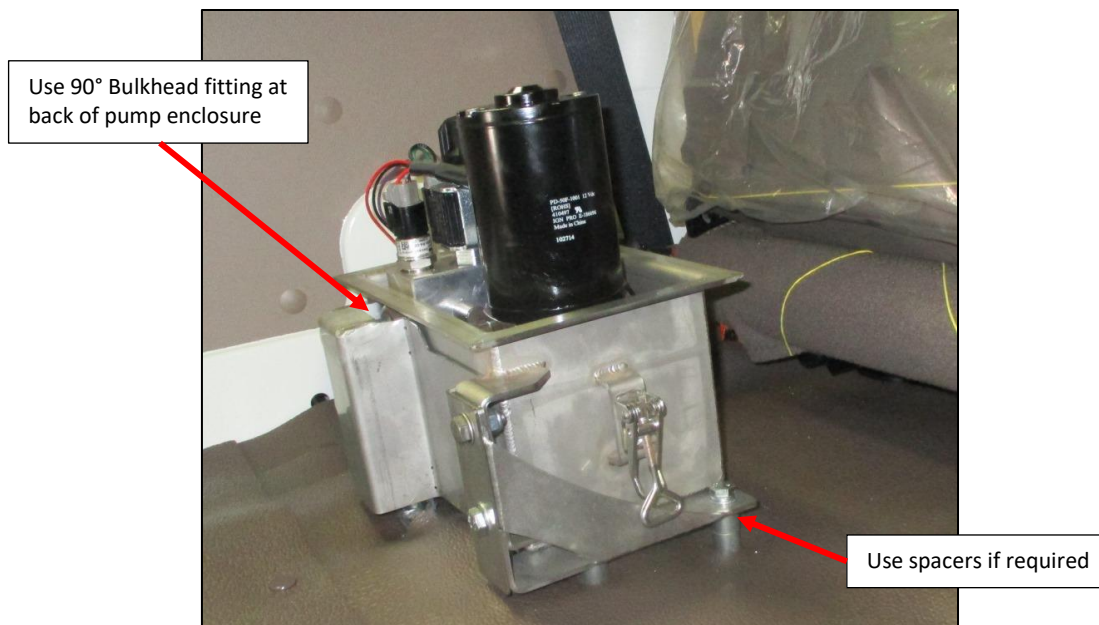

Fig. 15 ABT™ Failsafe pump enclosure troop carrier (mounted to floor behind front seats).
- d. On troop carriers (Fig. 15) mount the pump inside the vehicle using the supplied free-standing bracket (the straight bulkhead union at the rear of the pump enclosure must be replaced with the supplied right angle bulkhead union).